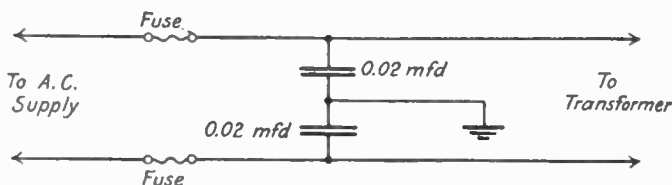

Fig. 28.—The Circuit of a Protecting Device for 110-Volt Supply Lines.
**C. Protective devices.** The underwriters' rules call for a protective device to prevent surges from the transformer back into the live. Fig. 28 gives the connections for a single and satisfactory type.